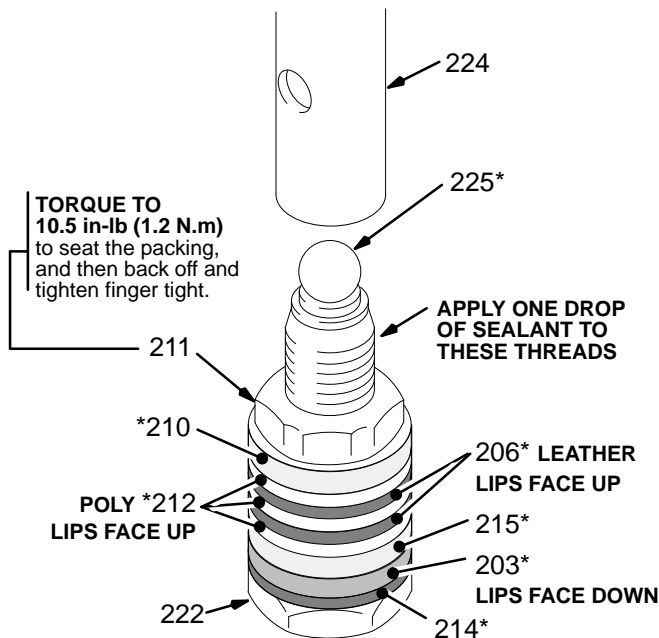

Fig 37-1
NOTE: Alternate leather and plastic packings as shown in Fig 37-1. The lips of the throat "V" packings must face down. The lips of the piston "V" packings must face up. The lips of the U-cup seal (203*) face down. Incorrect installation damages the packings and results in pump leaking.
- Place the ball (225) on the piston valve (222). See Fig 37-1.
- Apply one drop of adhesive, supplied, to the piston valve threads. Then hand tighten the valve assembly into the piston rod just until the nut (211) contacts the rod. See Fig 37-1.